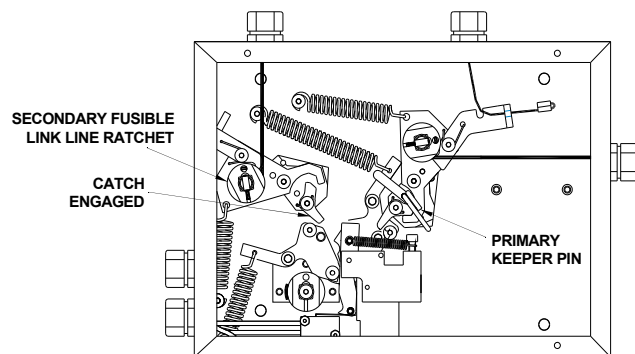

Figure 4-52.
2. Place the Keeper Safety Pin into the Primary Detection Arm Assembly to prevent the accidental release of the primary Detection Cable. See **Figure 4-52**.